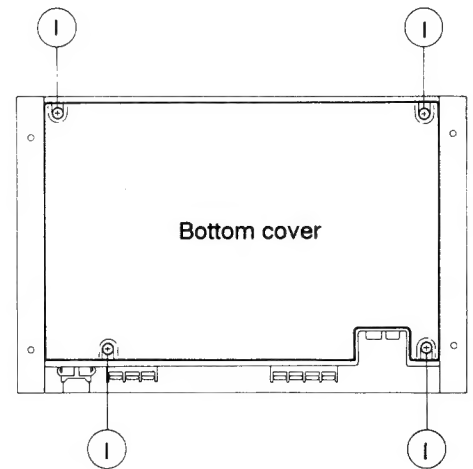

Fig. 4-1
■ Removing the bottom cover (See Fig. 4-1)